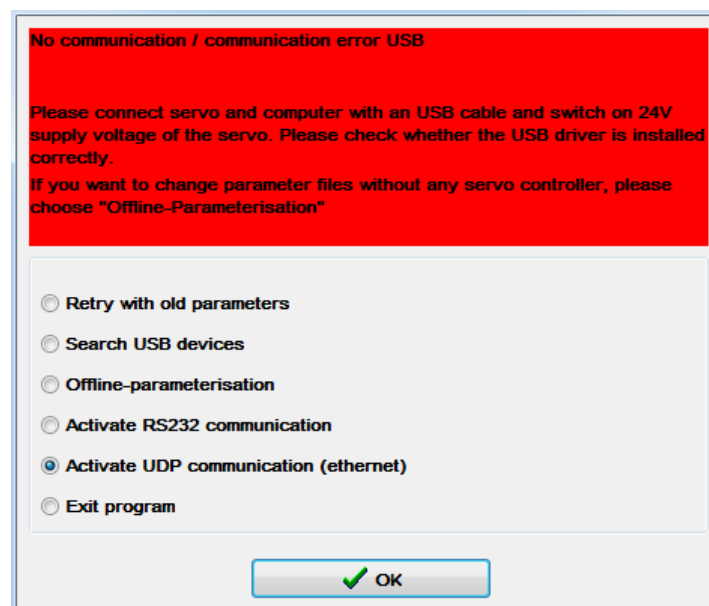

Figure 8-2: Selection of the type of communication with the Metronix ServoCommander®
2. Start the Metronix ServoCommander® and select the option **Activate UDP communication (Ethernet)**. Then, click OK to confirm (see Figure 8-2).